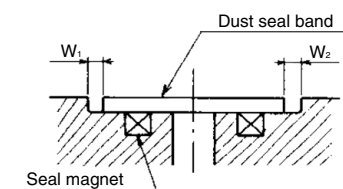

Fig. 5
- Masking tape (black) of dust seal band for replacement should be removed and applied the grease wholly as Fig. 4^(Note 1) after supplementary process of Fig. 5.
Set the dust seal band on the Cylinder tube with equivalent clearance W_1 and W_2 . (Fig. 5) Another work is same way as above 4.